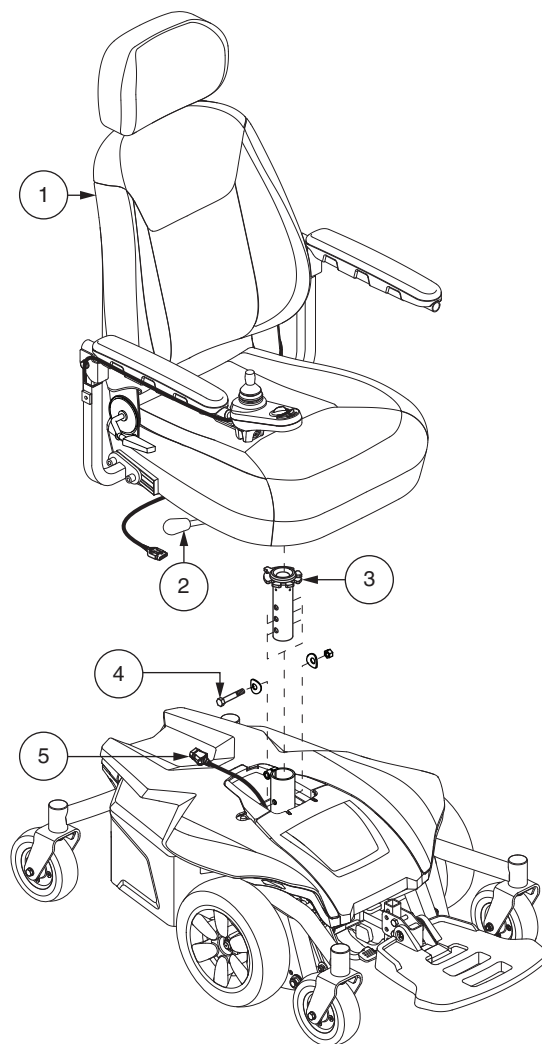

Figure 10. Seat Height Adjustment
3. Disconnect the controller connector from the power base. See figure 10.
4. Disengage the seat release lever. See figure 10.
6. Loosen the hardware at the rear of the seat post. See figure 10.
7. Remove the seat height adjustment bolt, washers, and nut from the seat post. See figure 10.
If your power chair is equipped with a manual recline seatback, you can adjust the seatback angle with the seatback release lever. The lever is located on the right side of the seat base. See figure 10.